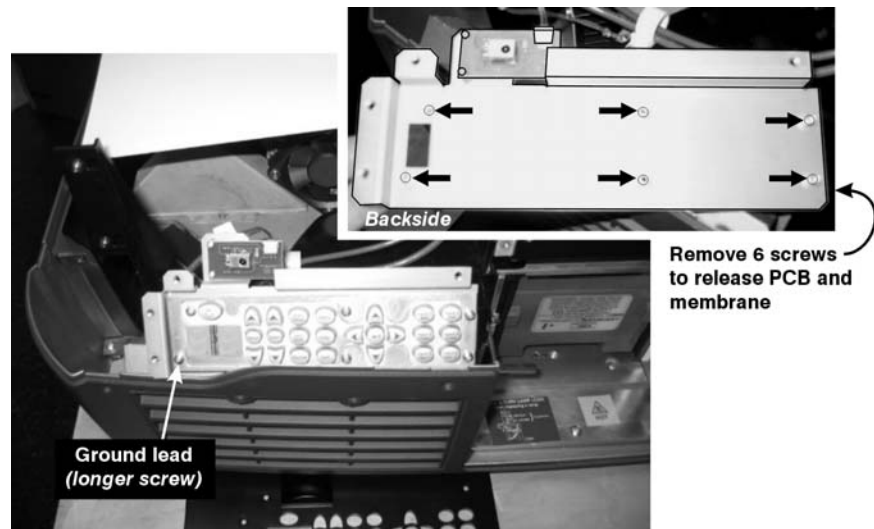

Figure 7. Built-in Keypad PCB
3. Remove the eight (8) screws securing the keypad plate.
5. Remove the six (6) screws securing the PCB to the silicone membrane. (Figure 7.)
NOTE: The screw used to secure the ground lead is longer than the other screws. Make sure you use this screw in the right location. (Figure 7)